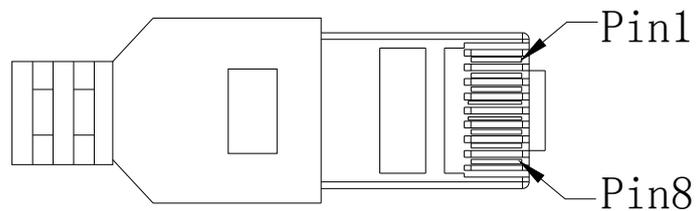

Figure2-4 The RS485 terminal definitions
1) For RS485 terminal, the definitions show as Figure2-4.